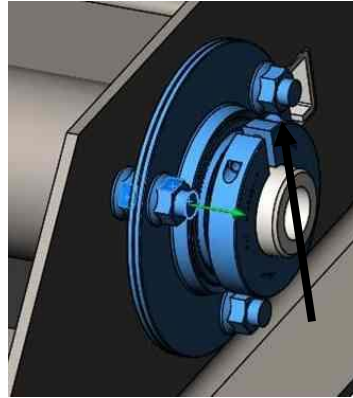

Figure 7
- Install the bearing on the right-hand side of the deck frame. Lock the collar in place using the set-screws. Leave the clamp bolt loose on the collar. Figure 7